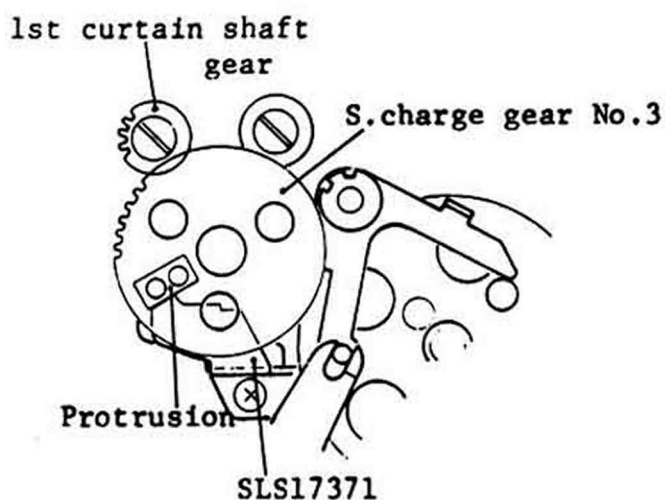

Fig. 34
- 5) In keeping above step 4), engage SLS1731T1 S.charge gear No.3 with the 1st curtain shaft gear. But the protrusion on reverse side of it should be in touch with SLS 17371 Stopper as shown in Fig. 34.